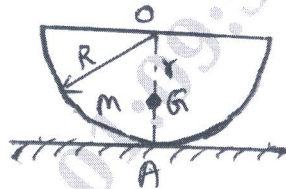

Fig.Q.4(b)
b. Find the natural frequency of vibration of the half solid cylinder shown in Fig.Q.4(b), when slightly displaced from the equilibrium position and released by using i) Newton's method ii) Energy method. (10 Marks)